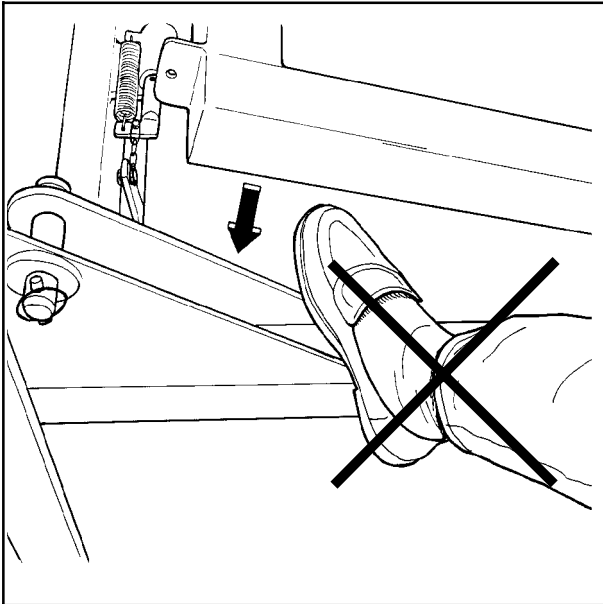

Fig. 2-2
2. When the wrapping of a bale is complete and tipped off the machine, the turntable has to be tipped back before wrapping next bale. When the middle frame with turntable is lowered, there is a squeeze danger between the middle frame and the main frame on both sides and in the back end of the machine. Keep therefor fingers and feet in safe distance. (Fig. 2-2).